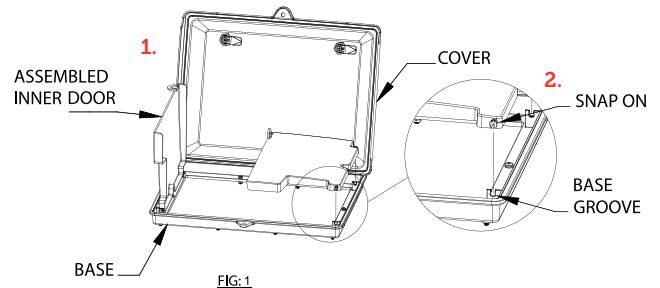

FIG:1
1. Mount the base to enclosure using the provided hardware. Align the base and top cover hinge points at both ends (Fig: 1).
1. Place the inner-door to be installed in horizontal position (Fig: 1).